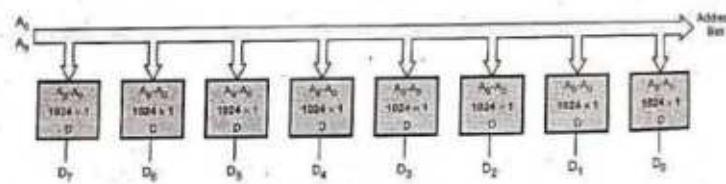

Fig. 7.8.6
**Solution :** i) Eight chips are needed with address lines connected in parallel as shown in the Fig. 7.8.6.